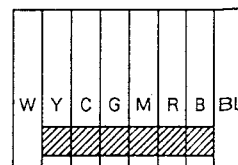

Fig. 1
4. Adjust T101 as shown in Fig. 1.